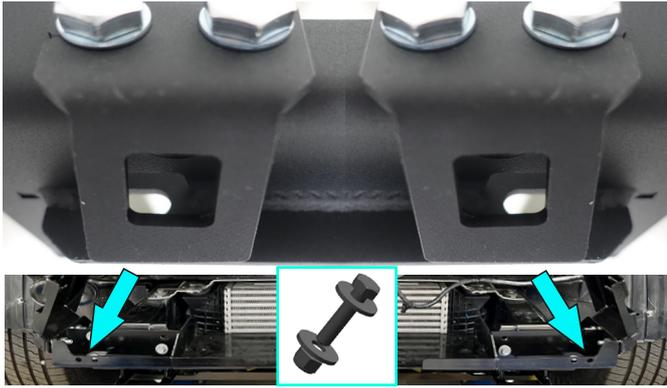

Fig.30
30. Install brackets for bash plate (item 22, 23) using bolts M10x30 nuts M10, washers 10 (item F, Q, K) (fig.30).